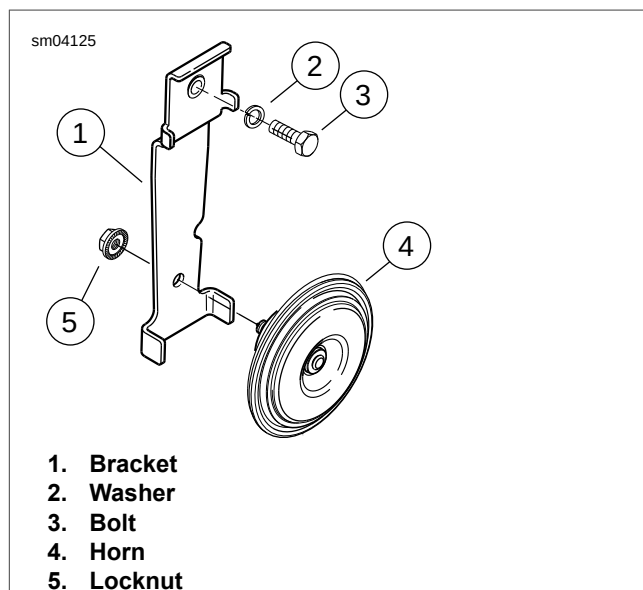

Figure 7-101. Horn: FXS/B
1. See Figure 7-101. Remove bolt (3) and washer (2) to detach horn bracket (1) from vehicle.
3. Remove locknut (5) to detach horn from bracket.
5. Attach horn to bracket with **new** locknut (5).
7. Attach horn bracket to vehicle using washer (2) and bolt (3). Tighten to 13-15 ft-lbs (17.64-20.36 Nm).